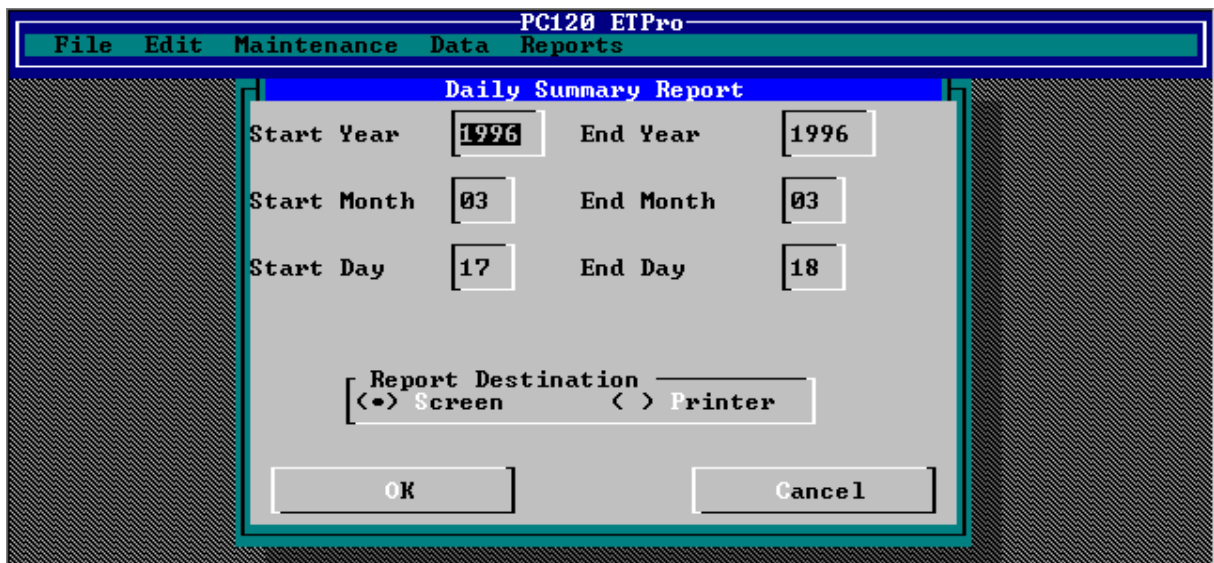

FIGURE 8. Daily Summary Report
1. Select the "Reports" menu followed by the "Daily Summary" sub-menu from the shell. A screen should appear similar to Figure 8.